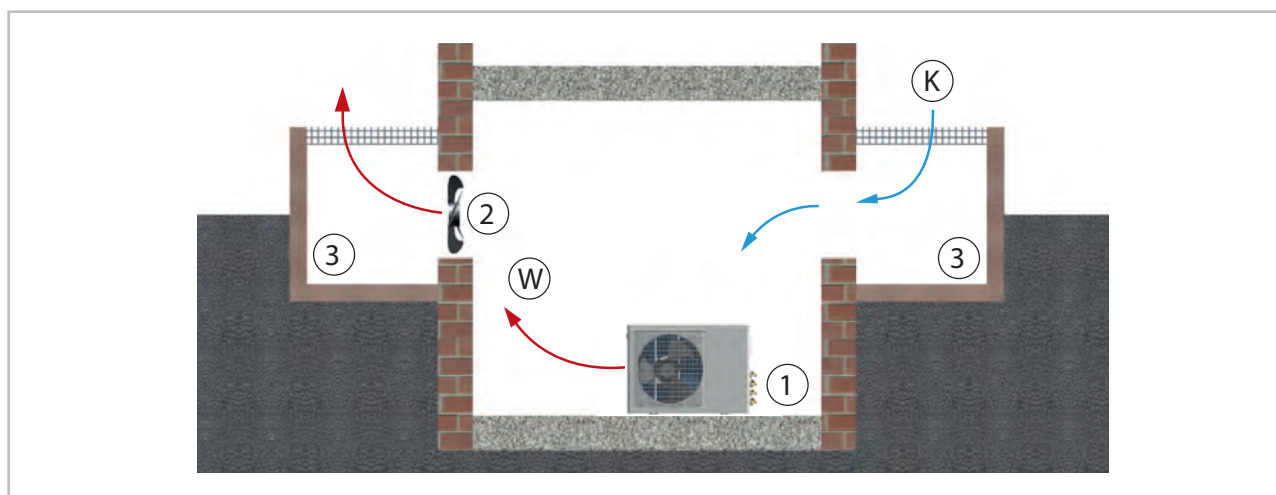

Fig. 22: Installation inside buildings
- Ensure that heat can dissipate adequately when placing the outdoor unit in cellars, lofts, adjoining rooms or halls (Fig. 22).
- Install an additional fan with a rated flow comparative to that of the outdoor unit being installed in the room and which can compensate any additional pressure loss in ventilation ducts (Fig. 22).